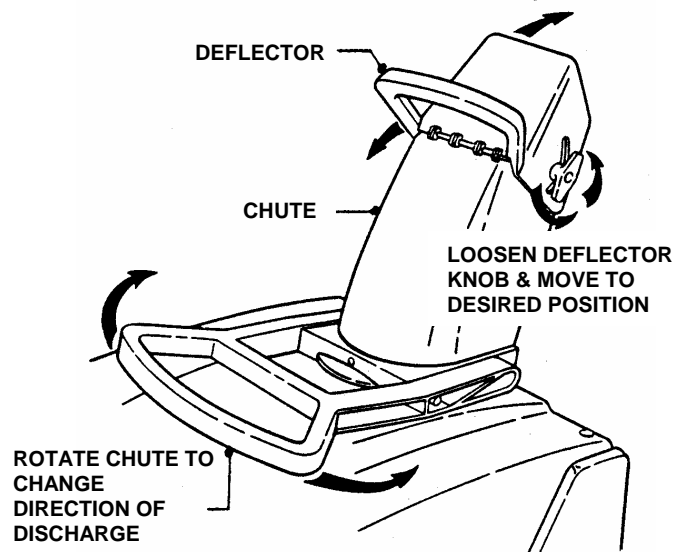

FIGURE 2.7
3. Rotate discharge chute in desired direction. See Figure 2.7.